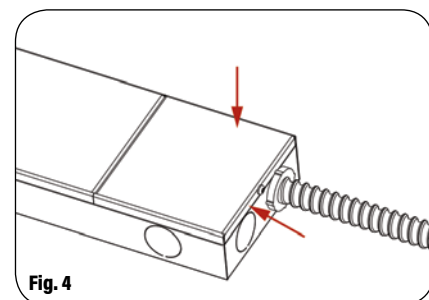

Fig. 4
4. Reinstall the driver cover and secure it with a screw. (Fig. 4)